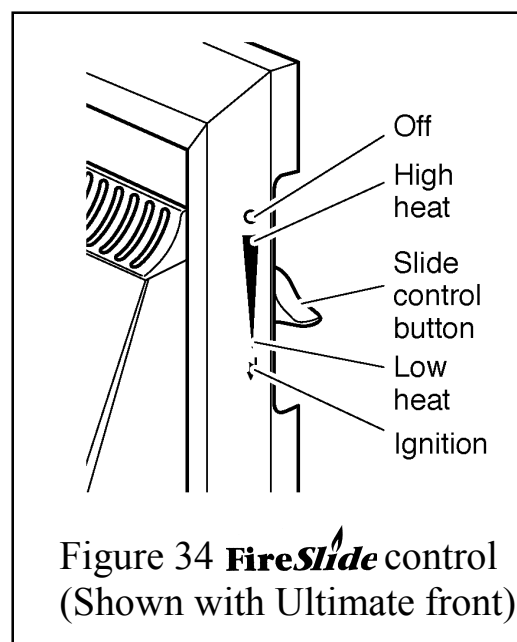

Figure 34 **FireSlide** control (Shown with Ultimate front)
The control position markings on the front surround are shown in figure 34.
5. Gradually slide the button up to increase the burner setting. The burner should be at its maximum setting at the high heat position shown in figure 34. You should feel a check to the button movement at this position.